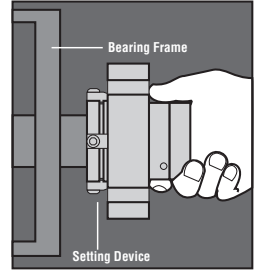

Figure 6
- 2.3 **Slide the KeyPS seal cartridge** onto the shaft or pump sleeve with the setting devices toward the bearing housing. See Figure 6.